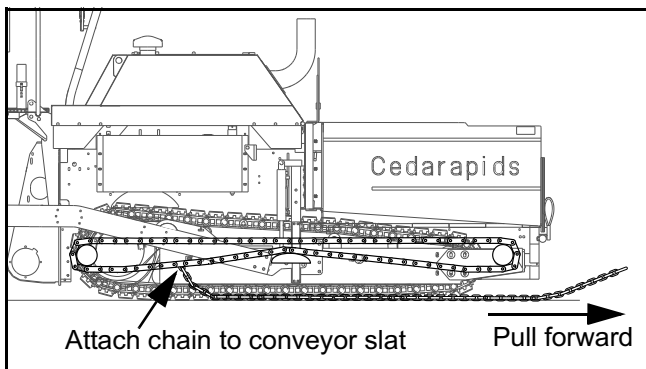

Figure 5 - 9 Attach chain to conveyor slat
- 2) Run a chain under the paver from the front to the back. Attach chain to the slat conveyor on the bottom rear of the slat conveyor. (Figure 5 - 9)